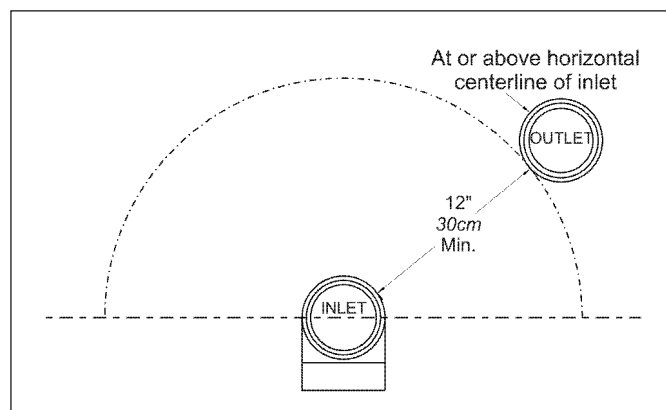

Figure 10. Minimum Venting Distance.
6. Vent outlet must be no lower than the center of the air inlet, and must be at least 12" (30cm) away from the air inlet (see Figure 10).